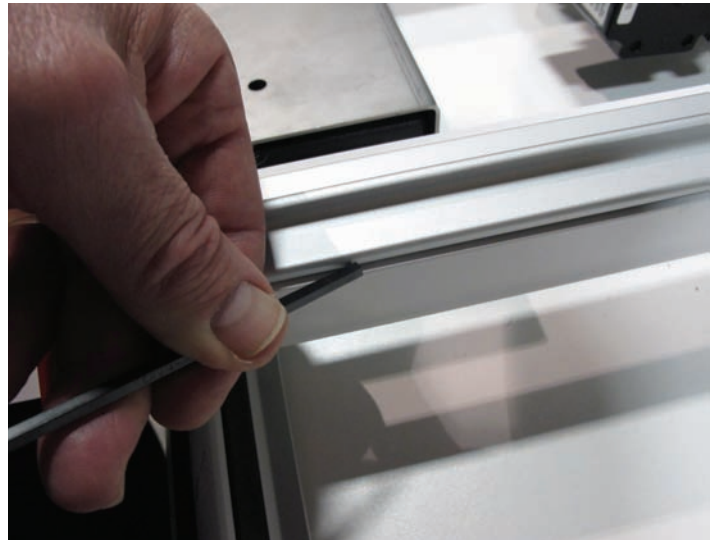
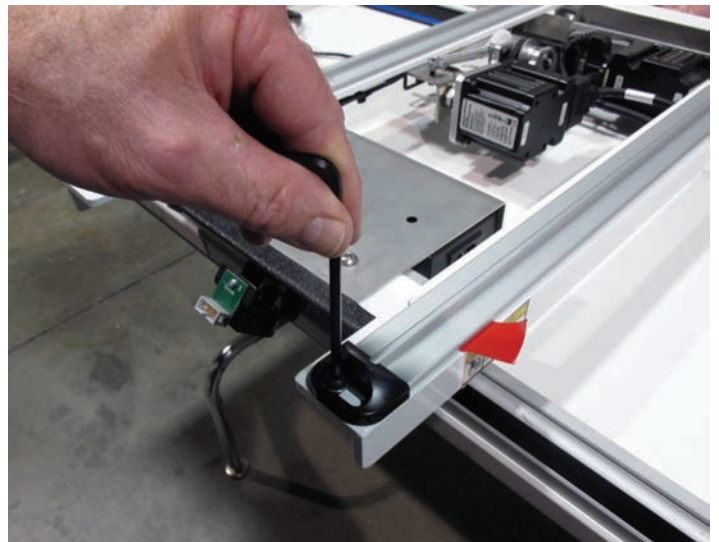

Figure 11
Figure 12
Step 8: Lightly tighten the two screws holding the left-side track. Tighten them only enough to hold the end caps in position; do not completely tighten the end cap screws now. Visually check that the track is parallel to the white frame of the carriage (**Figure 11**). Adjust it if necessary by loosening the two end cap screws, adjusting the track, and then lightly tightening the end cap screws (**Figure 12**). **Note: The screws will be fully tightened after the tape backing is removed in the next step.**